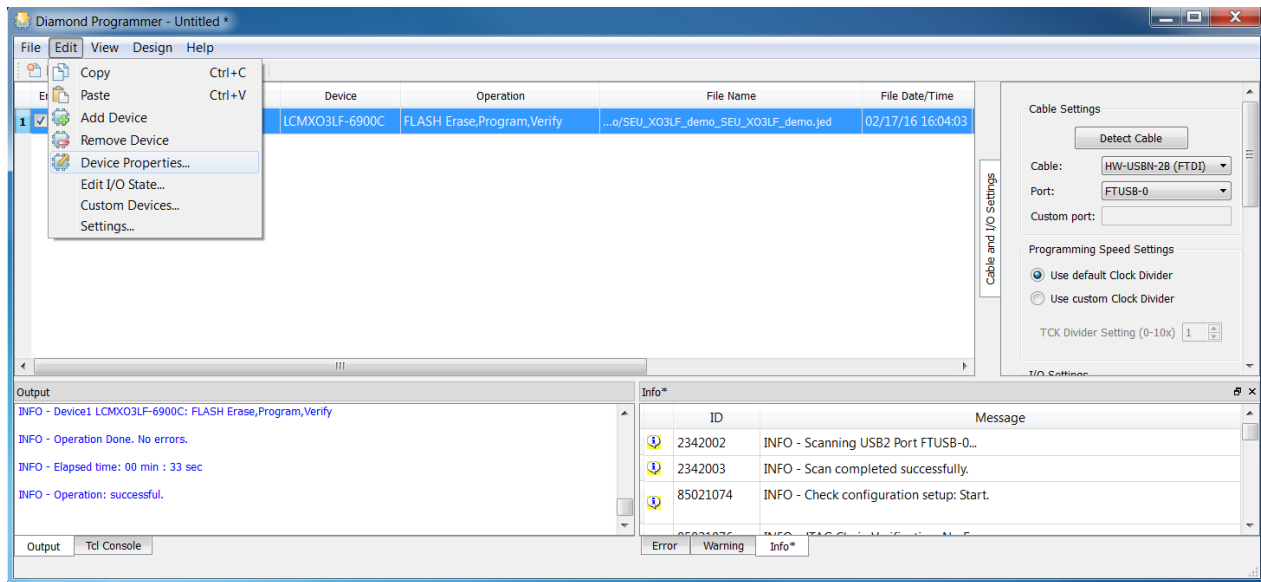

Figure 8.7. Device Properties Window
1. Click on the Device line so its gets highlighted in blue as shown in Figure 8.7.